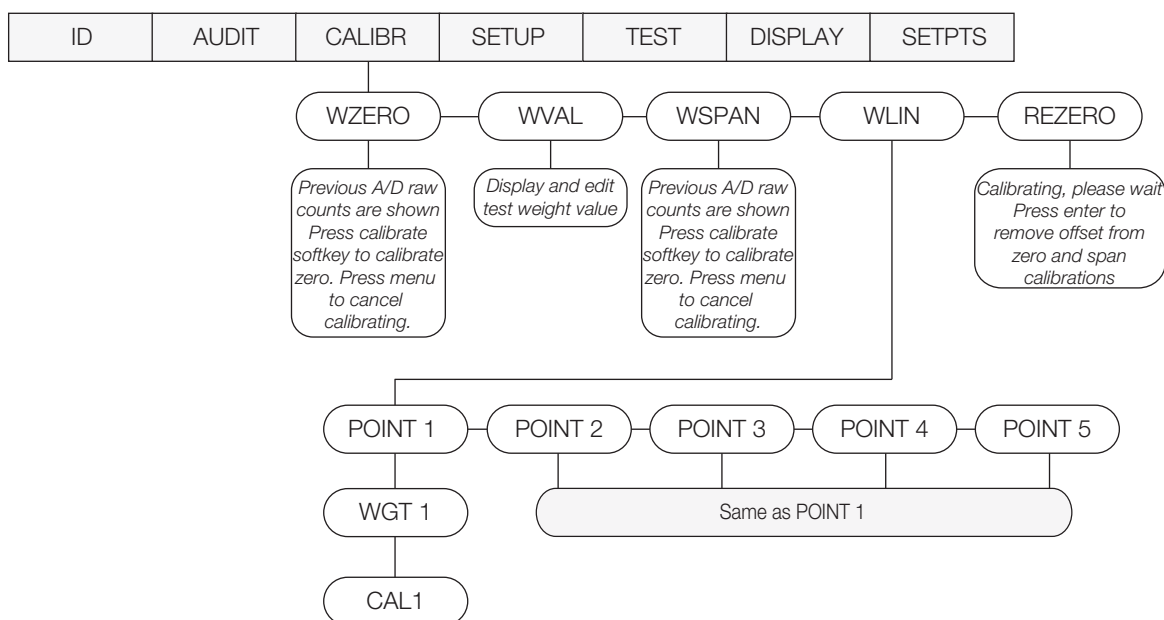

Figure 4-1. Calibration (CALIBR) Menu
**Calibration can be performed in two places within the menu: the CALIBR menu shown in Figure 4-1 and the SCALE sub-menu shown in Figure 3-7 on page 27. CALIBR menu in Figure 4-1 is a “quick access” calibration. For an in-depth scale setup and calibration, use the menus found under SETUP/CONFIG/SCALE (Figure 3-7 on page 27).**